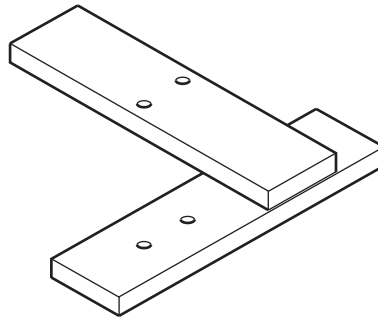

Fig. 6.1
- 6 Fig. 6.1 shows two lengths of 5 mm thick mild steel strip with pre-drilled holes.